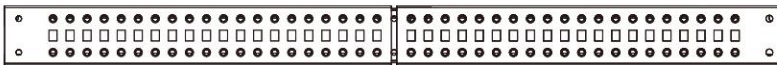

Figure 2
3. Slide the Left corner Brackets and the Right corner Brackets,inward along the Center Sections,and align the Center Sections with the hole on the Left corner Brackets and the Right corner Brackets.(Figure 2)